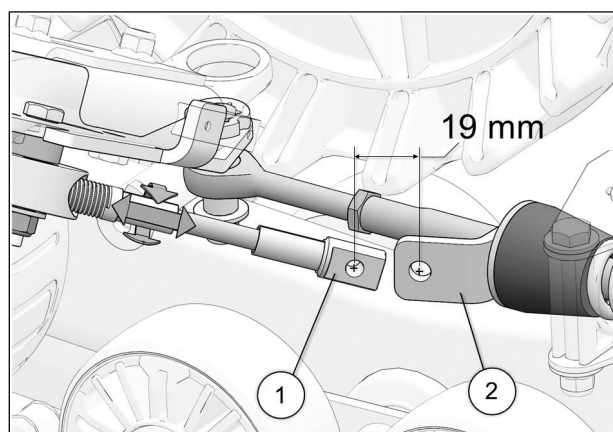

Fig. 27
17. Turn the vehicle's steering wheel to its maximum point of travel on the left. While maintaining pressure on the steering wheel, turn threaded rod to adjust length of cable. See Fig. 27
18. Position cable end hole (1) 19mm [$\frac{3}{4}$ in.] short of support plate (2) mounting hole. See Fig. 27